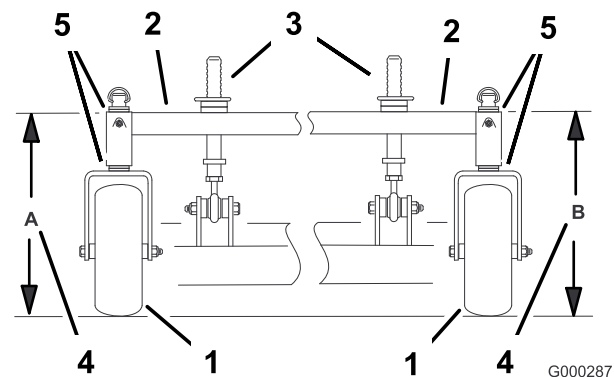

Figure 57
- Measure carrier frame height at location **A** (Figure 57).
- Measure carrier frame height at location **B** (Figure 57).